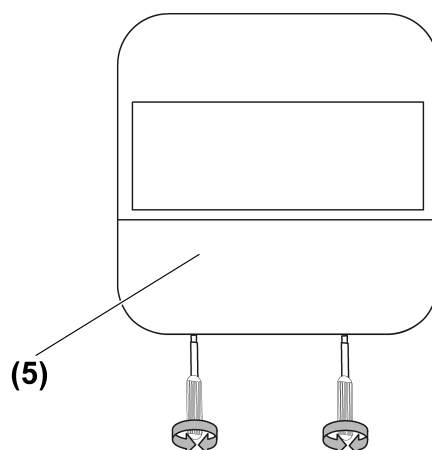

Figure 12: Dismounting of cover series CD/LS
- Remove switch (5) (Figure 12).
- Remove the cover from the (Figure 12) switch (5).